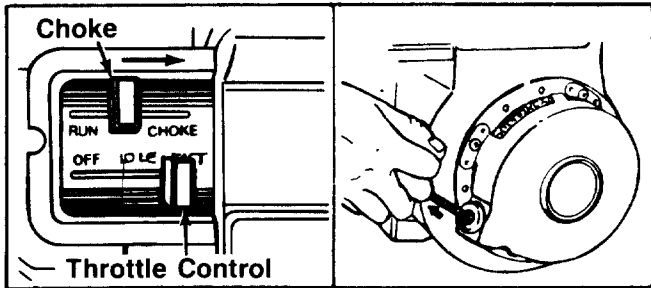

FIGURE 9.
- Place the throttle control lever in FAST position. See figure 9.
- Grasp starter handle (see figure 9) and pull rope out slowly until engine reaches start of compression cycle (rope will pull slightly harder at this point). Let the rope rewind slowly.
NOTE: If engine does not fire after three attempts, move choke lever halfway between CHOKE and RUN position and try again. See figure 9.
- Move throttle control lever to STOP position. See figure 9.